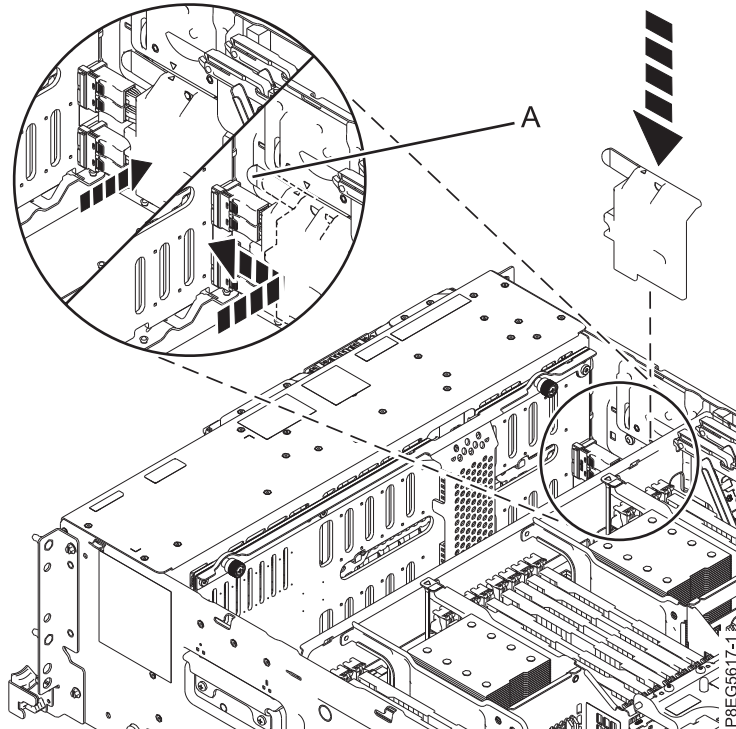

Figure 21. Replacing the SAS cable cover
7. Replace the SAS cable cover. Place the cover slots onto the pins on the side of the chassis. The triangle symbol on the SAS cable cover lines up with the triangle symbol on the side of the chassis when the cover slots and pins are aligned correctly. Push the cover forward toward the front of the system until the handle (A) latches in place. See Figure 21 on page 21.